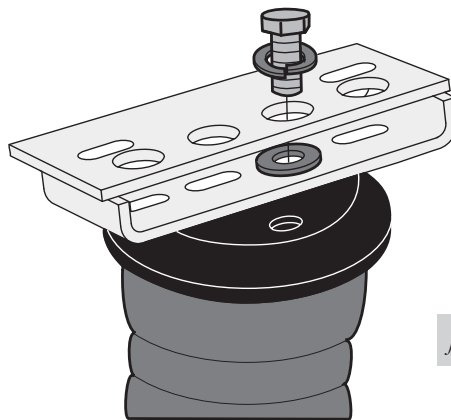

fig. 5
2. Attach the upper brackets (C) to the air springs with two 3/8-24x7/8” hex head bolts (I), lockwashers(S) and flat washers (M). Leave loose at this time (Fig. 5).